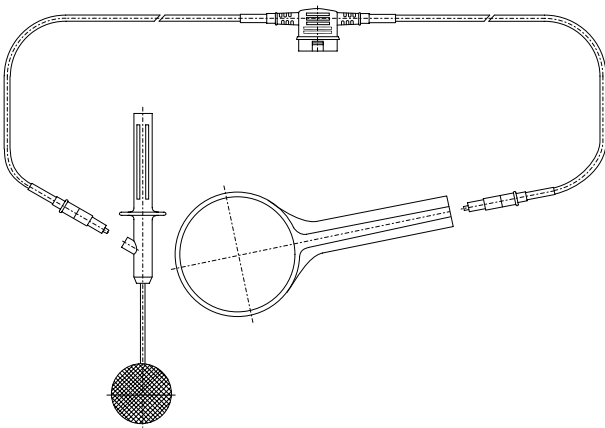

Figure 18-2. Counter electrode for internal defibrillation
- *Cable Damage — Disconnect the cable from the electrodes before sterilization (arrow, Figure 18-2).*
- Disconnect the electrode from its lead before cleaning or sterilizing it (Figure 18-2).